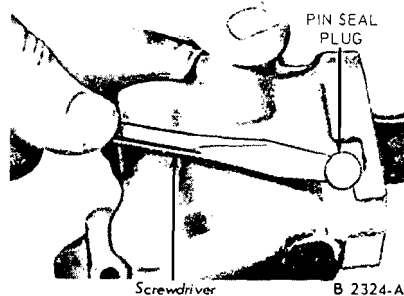

FIG. 4—Rocker Arm Pin Seal Plug Removal
1. Scrape away the staking mark and remove the rocker arm pin seal plug as shown in Fig. 4.